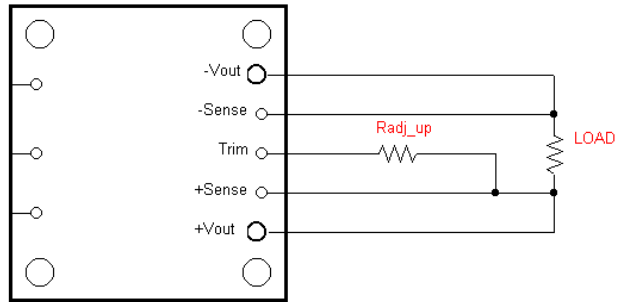

Figure 3. Radj_up Setup to increase Output Voltage.
7. For Output Voltage Adjustment setup, refer to Figures 3 and 4. For V_{in} < 39V, the output can only be trimmed up 5% and the minimum OVP clamp is reduced to 12.75V.
To adjust Vo to a higher value, please refer to Figure 3. An external resistor, **Radj_up** should be connected between the Trim Pin and the +Sense Pin. From Equation (1), Radj_up resistor can be determined for the required output voltage increment.